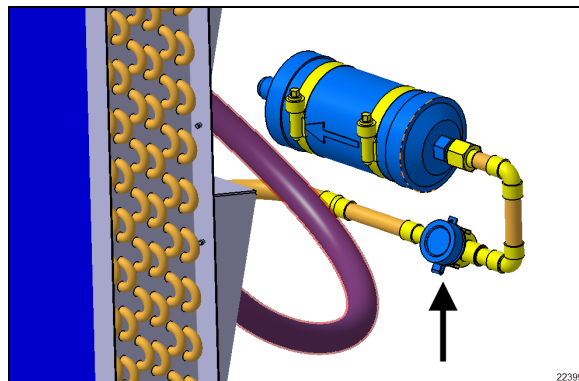

FIGURE 99: MOISTURE INDICATOR SIGHT GLASS
- 2- With the AC on for at least 10 minutes, the moisture indicator sight glass (FIGURE 99) should be clear, not milky, without bubbles in the stream of refrigerant. Bubbles in the moisture indicator sight glass are sign of